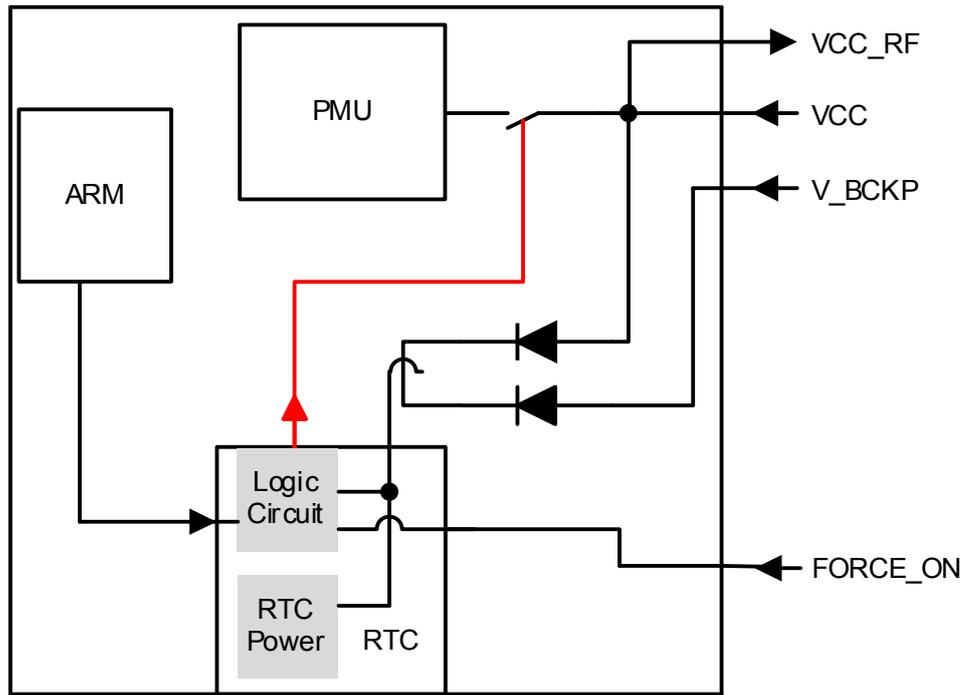

Figure 3: Internal Power Construction
- Send command "\$PMTK225,4*2F" (the red signal line opens the switch in **Figure 3**) to enter into backup mode constantly. The only way to wake up the module is by pulling FORCE_ON pin high (the red signal line closes the switch in **Figure 3**).